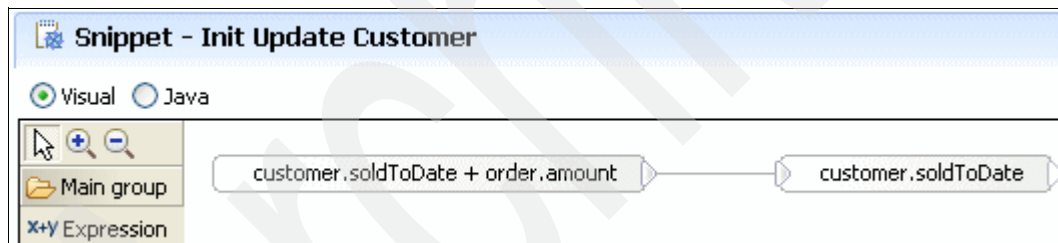

Figure 3-175 Init Update Customer snippet
5. Right-click **ConfirmOrder**. Select **Add** → **Snippet**. Then, name the snippet Init Update Customer, and define the snippet as shown in Figure 3-175.